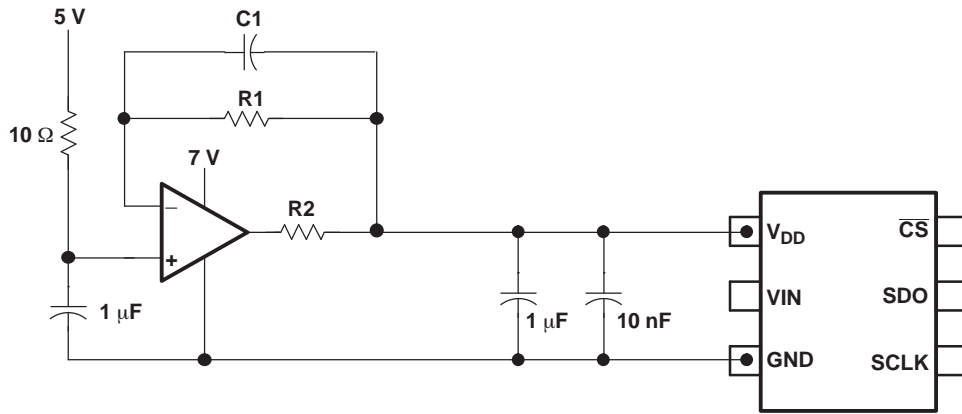

图 24. Buffering with the OPA735
- A low-pass filtered version of the system supply followed by a buffer such as the zero-drift OPA735 can also be used in cases where the system power supply is noisy. Care should be taken to ensure that the voltage at the VDD input does not exceed 7 V (especially during power up) to avoid damage to the converter. This can be done easily using single supply CMOS amplifiers like the OPA735. 图 24 shows one possible application circuit.